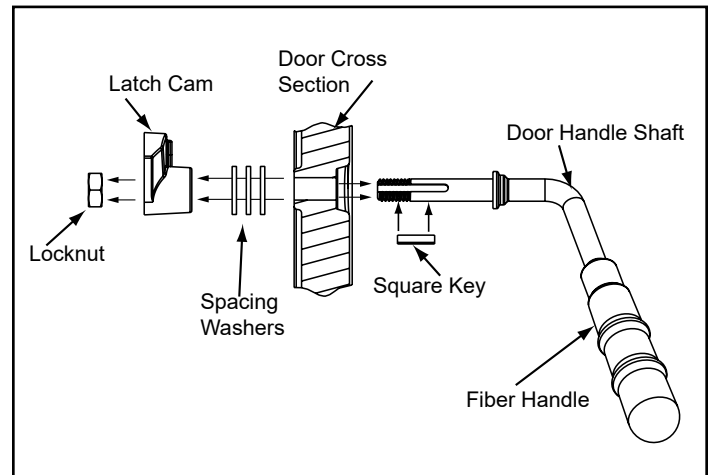

Figure 24.2
2. Install additional washer(s) as shown in **Figure 24.2**